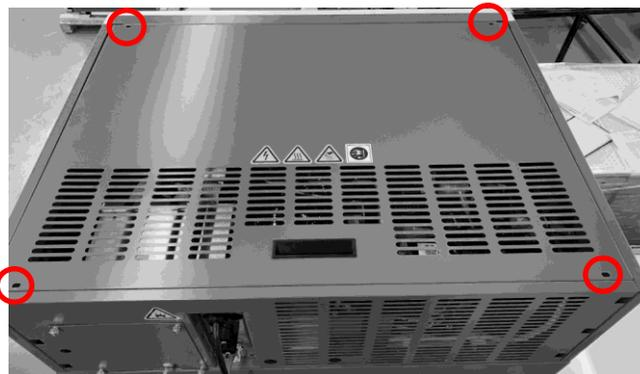

Figure 5-1 Top Cover Screws
3. Remove the screws from the perimeter of the top compartment cover (Figure 5-1).